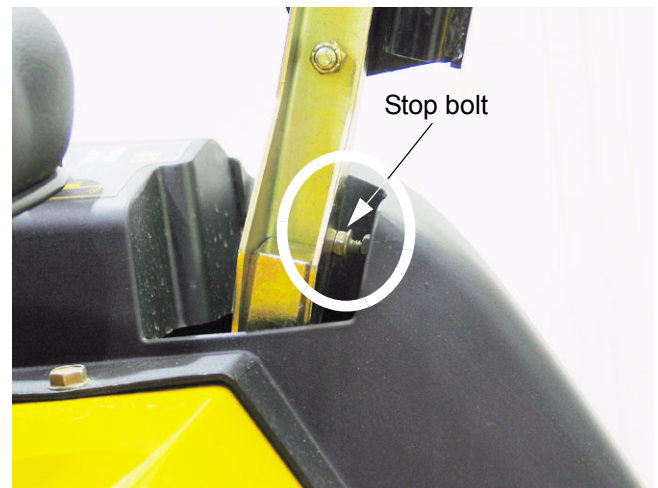

Figure 7.10
- 7.10. Adjust the stop bolts so that it tracks as straight as possible with both lap bars pushed to the full forward position. See Figure 7.10.